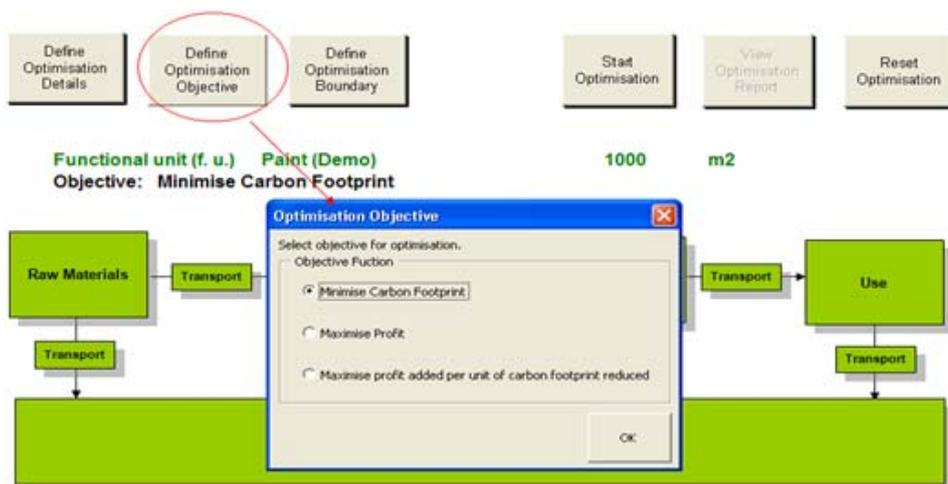

Figure 5 The form for defining objective functions in the optimisation
To start optimisation, click on Define Optimisation Objective button on the top level of the tool, as shown in Figure 5. For each demonstration case study, the user can carry optimisation on one of the objective functions shown in Figure 5. Further constraints can also be defined. The simplified optimisation procedure is describe below.
Step 1: Define the objective function by clicking 'Define Optimisation Objective' at the top of the screen at the top level of the tool (Figure 5).